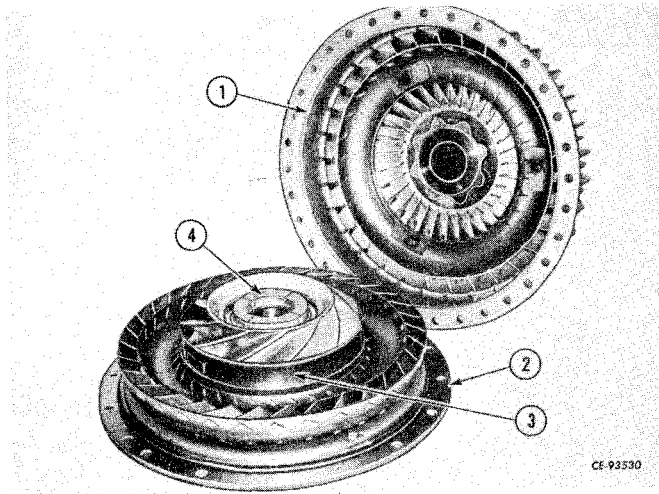

Figure 3-31
Install new seal ring (3, Fig. 3-31) on impeller hub (2) and install hub in impeller (1). Secure with cap screws and tighten to recommended torque.
Position small thrust washer (4, Fig. 3-31) on stator (3) with tabs engaging notches on large stator thrust washer. Lubricate small thrust washer with transmission fluid.